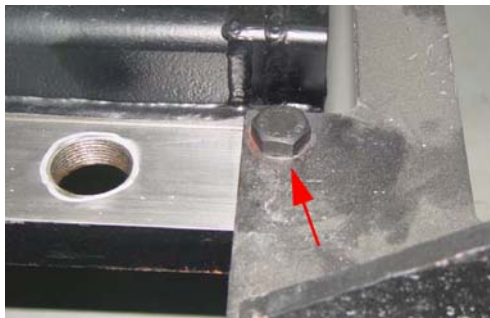

Figure 1-7 Gantry Dolly Bolts
- 6.) Using a 14mm hex socket, remove the dollies from the gantry by removing the three dolly bolts found at both ends of the gantry (Figure 1-7).